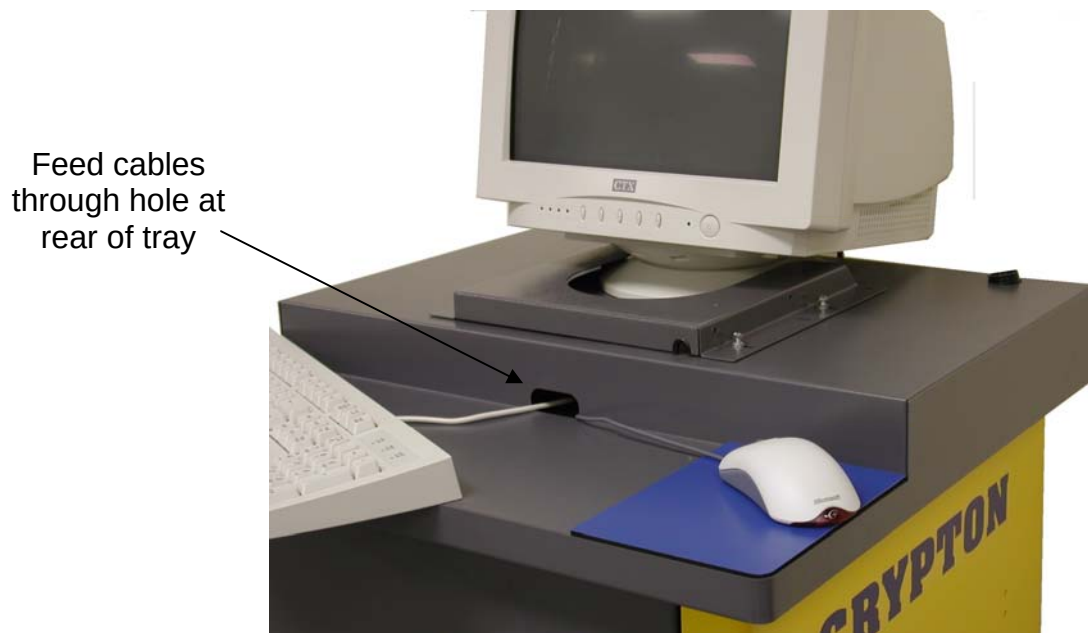
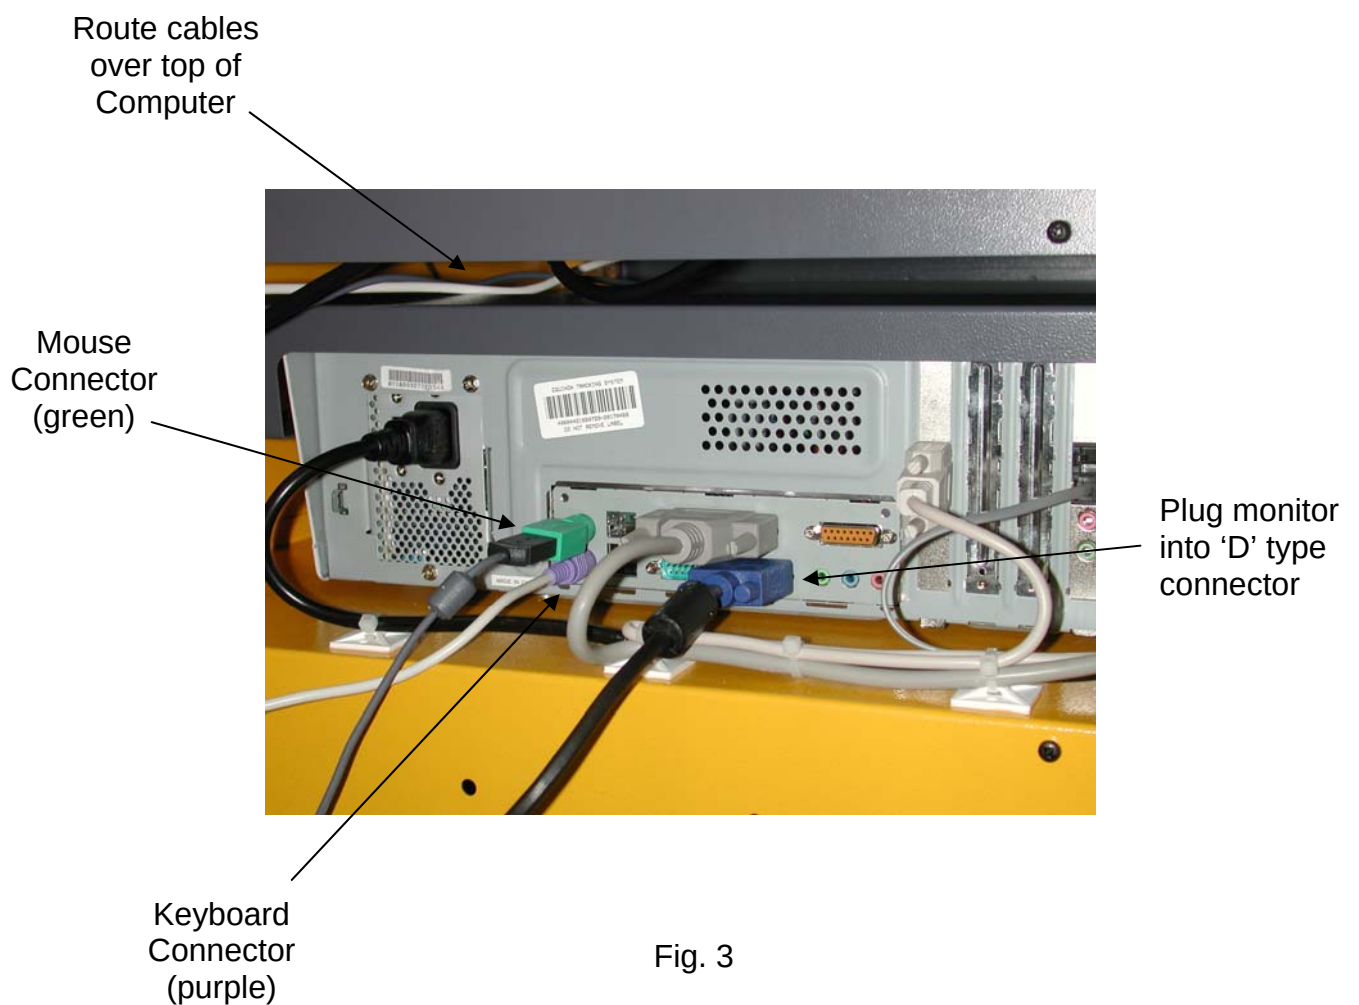

Fig. 2
Fig. 3
2. Place the keyboard and Mouse on the front tray of the trolley (Fig. 2). Feed the cables through the hole at the back of the tray, over the top of the Computer and plug in to the colour coded connectors on the back of the computer, green for the mouse and purple for the Keyboard. Refer to Fig. 3
5. Plug the mains lead into the socket on the back of the Monitor and the signal lead into the 15 way high density 'D' type connector on the computer as shown in Fig. 3. Tighten the screw locks finger tight. Ensure that there is enough slack left on the cables to allow the Monitor to swivel from side to side.